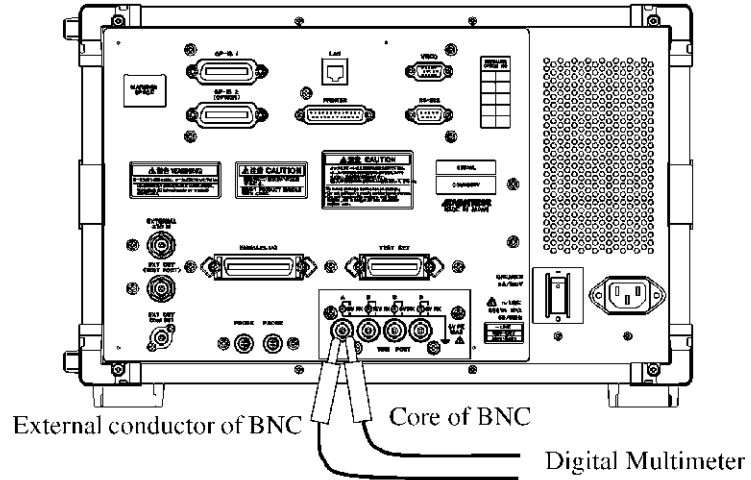

Figure 15-10 Output Voltage Accuracy Measurement on Channel A on the VSIM
3. Set the digital multimeter to the voltage measurement mode. Measure the output voltage on channel A on the VSIM as shown in Figure 15-10.